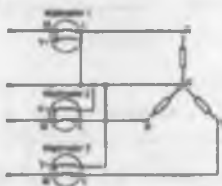

Figure 20.14
- (iii) **Three-wattmeter method for a three-phase, 4-wire system for balanced and unbalanced loads** (see Fig. 20.14).